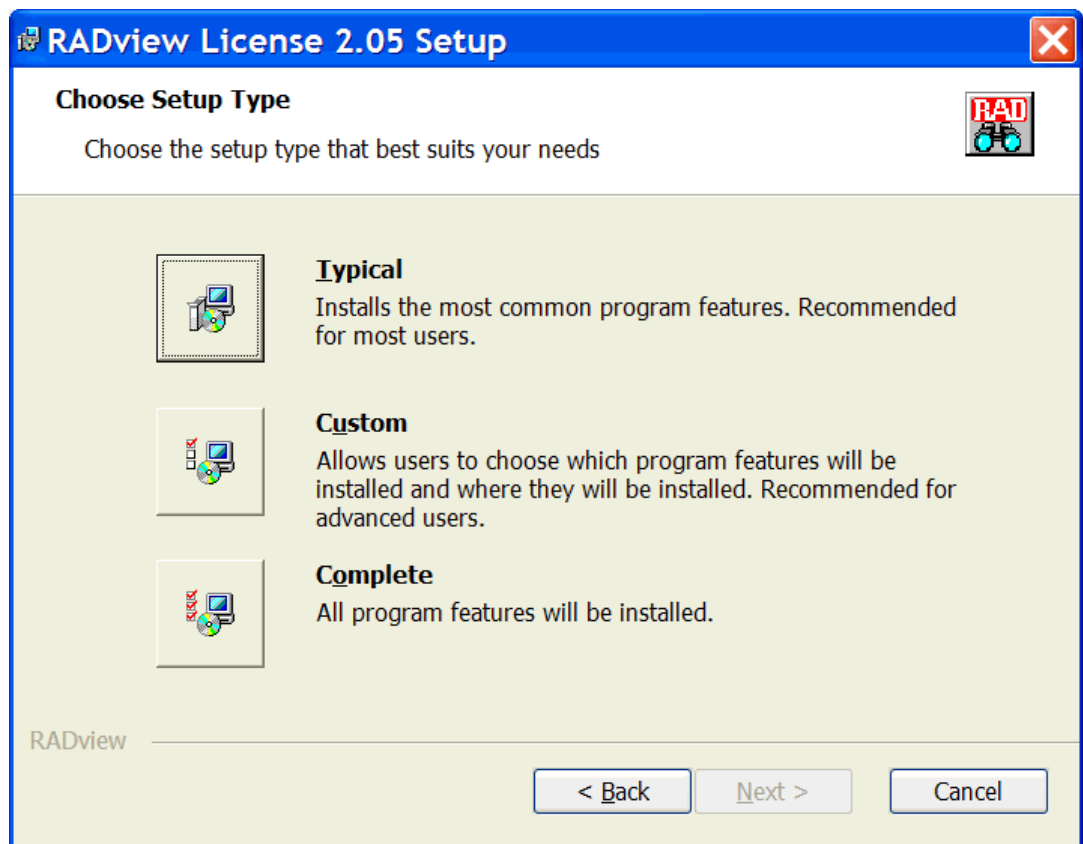

Figure 2-35. Choose Setup Type Dialog Box
1. In the Choose Setup Type dialog box (see Figure 2-35), click **<Custom>**.
1. In the Choose Setup Type dialog box (see Figure 2-35), click **<Typical>** or **<Complete>**.